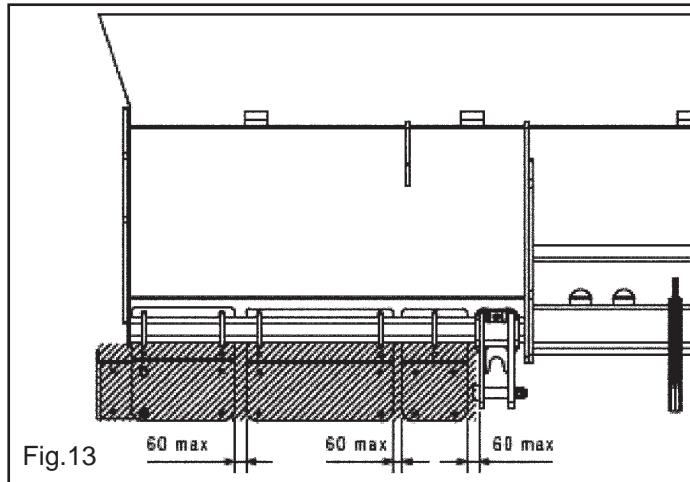
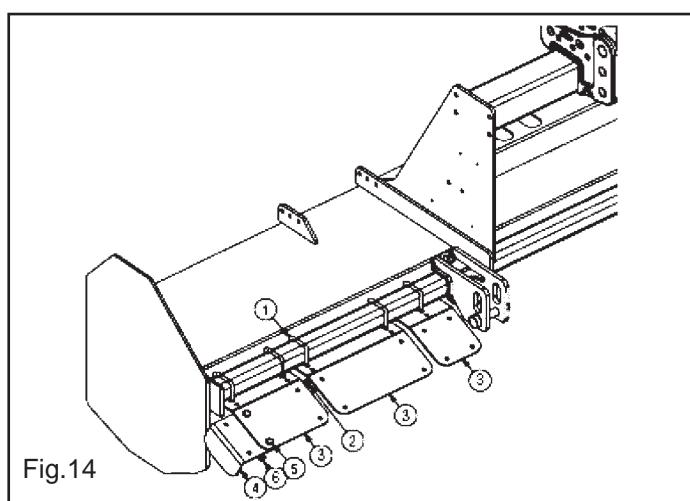

Fig.13
Fig.14
By using "U" bolts 1 and 2 (Fig.14), assembly the front protections 3 (Fig.14) in order to cover the shaded area going from the lower connection to the external side, as showed on the picture .A. The clearance between the front protections (3) and the clearance between the lower connections and its nearest protection, must be maximum of 60 mm (see Fig.13). External front protection (3) must be mounted as near as possible to the external side. The front-side protection (4) must be fixed to this latter, on the most external position, by means of screw (5) and nut (6). In case of assembly of optional (front wheel, track eradicators) on the shaded area, position the front protections in order to leave clearances maximum of 60 mm. In case it would not be possible to leave this clearances, or if the protections are damaged, order new ones as soon as possible, giving the serial number of the machine.